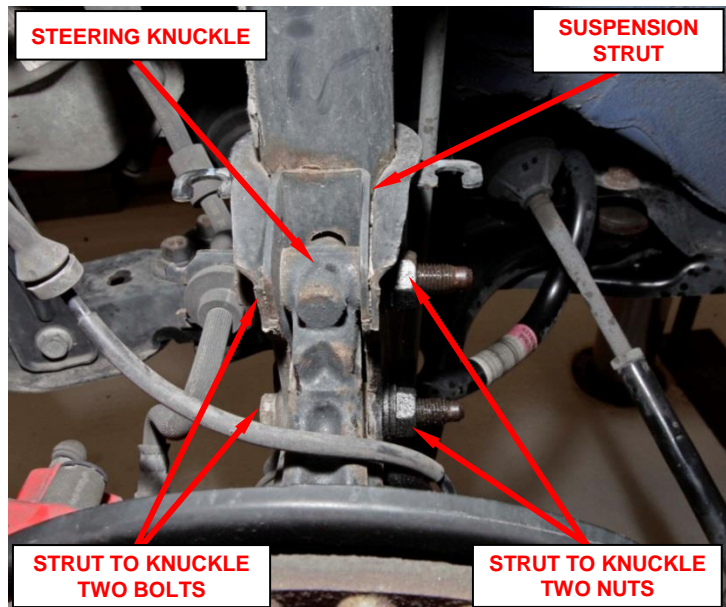

Figure 38 – Lower Ball Joint Pinch Bolt
36. While holding the bolt heads stationary, remove the two nuts from the bolts attaching the strut to the knuckle (Figure 38).
37. Remove the two bolts attaching the strut to the knuckle (Figure 38).